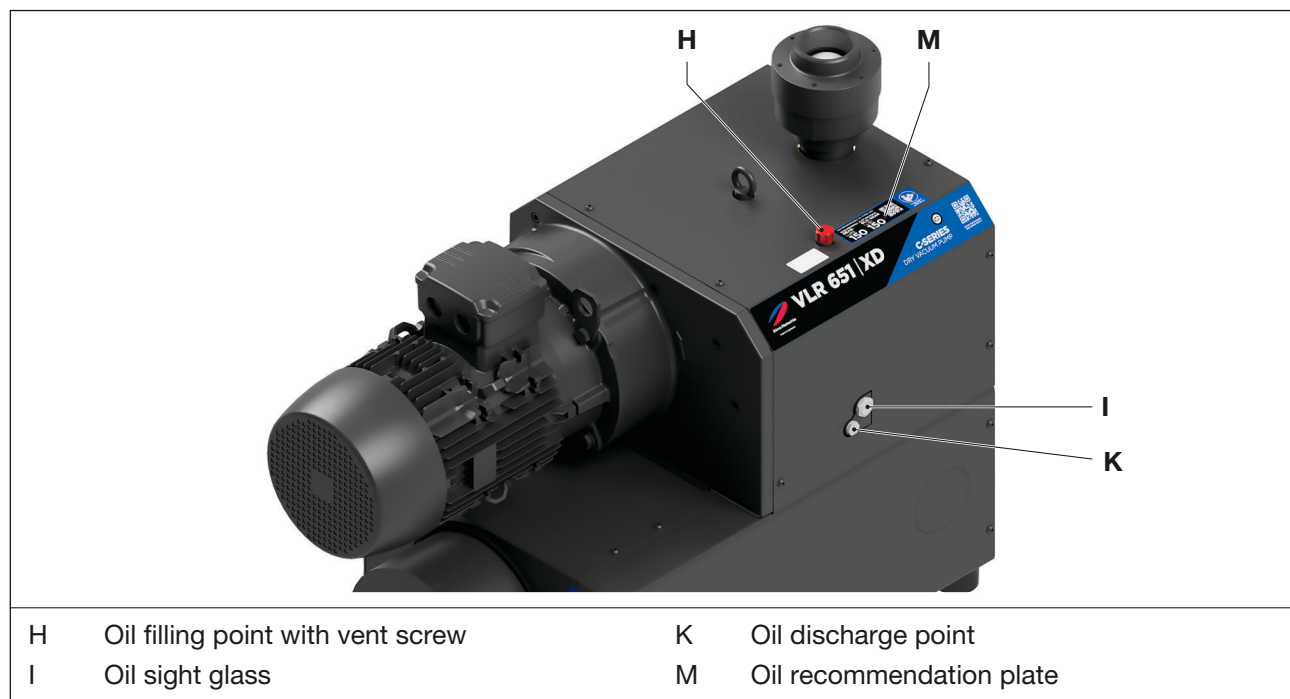

Fig. 5 Oil change
As operating agent, we recommend Elmo Rietschle oils, see the recommendation for on plate (Fig. 5/M) as well as Tab. 3 on page 30:
Check the oil level in the sight glasses (Fig. 5/I) every month.
- b) Open the cap of the oil filling point (Fig. 5/H) and refill oil until it reaches the upper edge of the sight glass (Fig. 5/I).
- b) Open the cap of the oil filling point (Fig. 5/H), open the oil discharge point (fig. 5/K) and completely discharge the used oil.
- c) Close the oil discharge point (Fig. 5/K) and fill in new oil through the oil filling point (Fig. 5/H). Check the oil level in the sight glasses (Fig. 5/I).
- d) Close the screw in the oil filling point (Fig. 5/H).